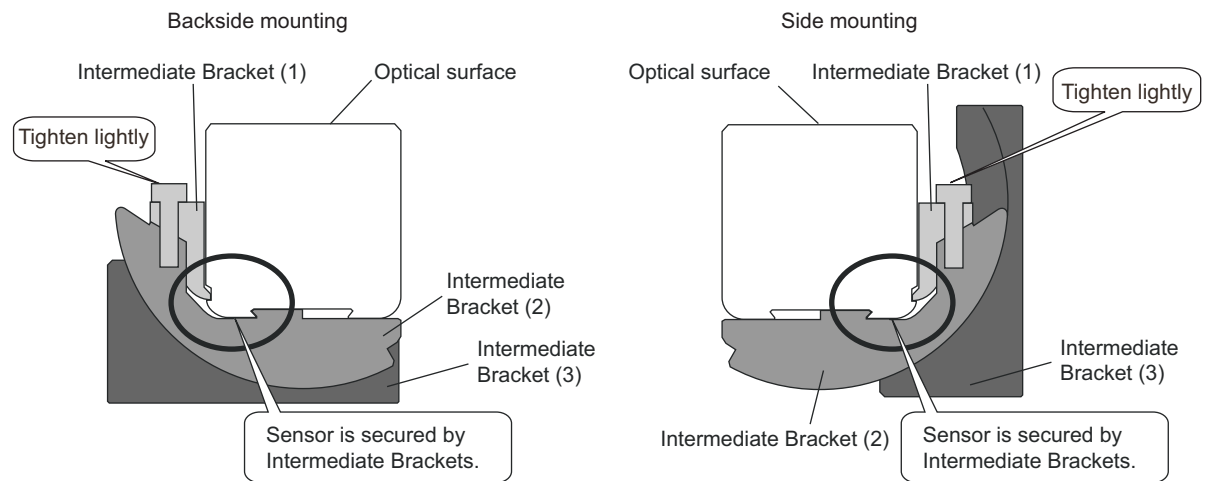

Figure 17
2. Mount the Intermediate Bracket to the case, and lightly tighten the hexagon socket head cap screws (M3 x 12) of Intermediate Bracket (1). (Figure 17)